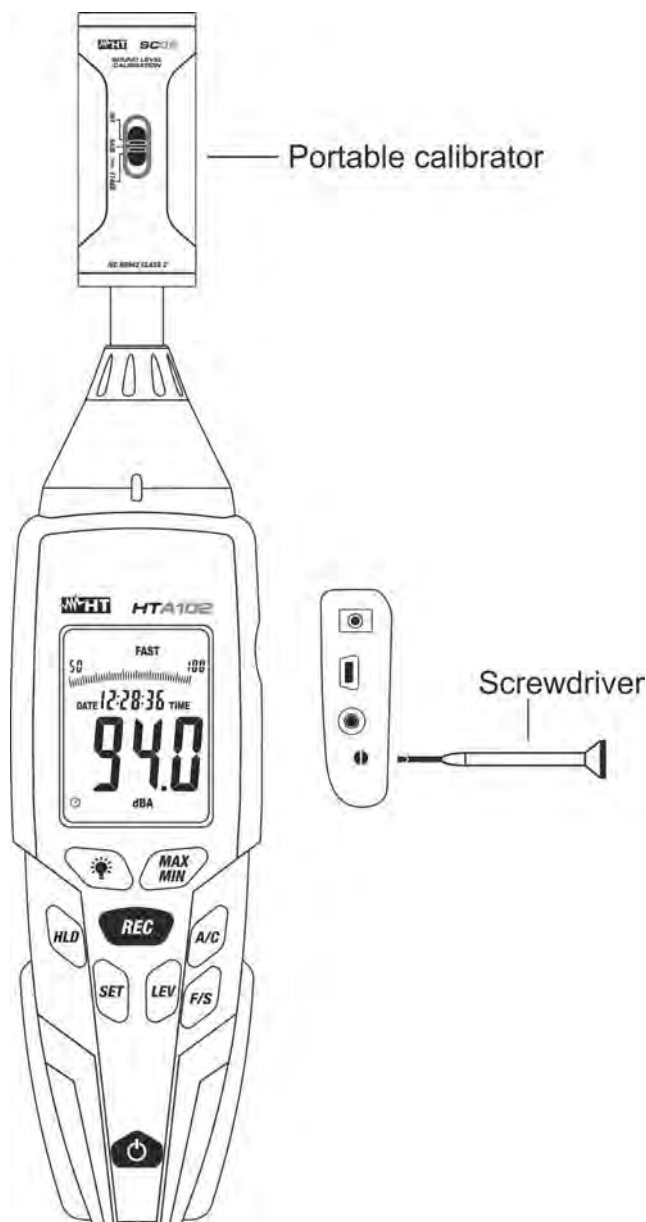

Fig. 11: Connect the mobile calibrator to the instrument
3. Carefully insert the mobile calibrator **SC05** provided into the instrument's microphone until a click is heard, as shown in Fig. 11.